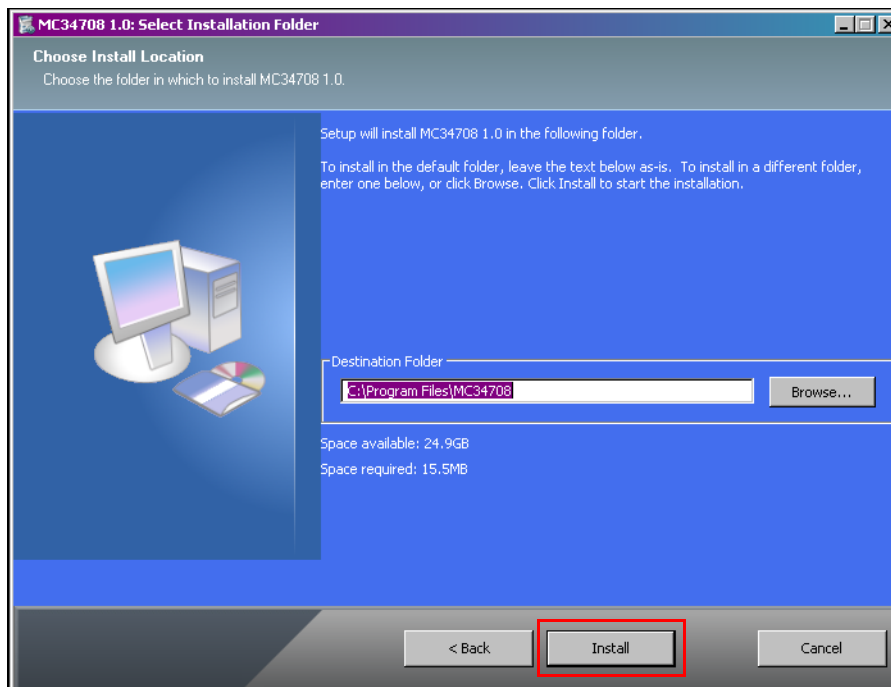
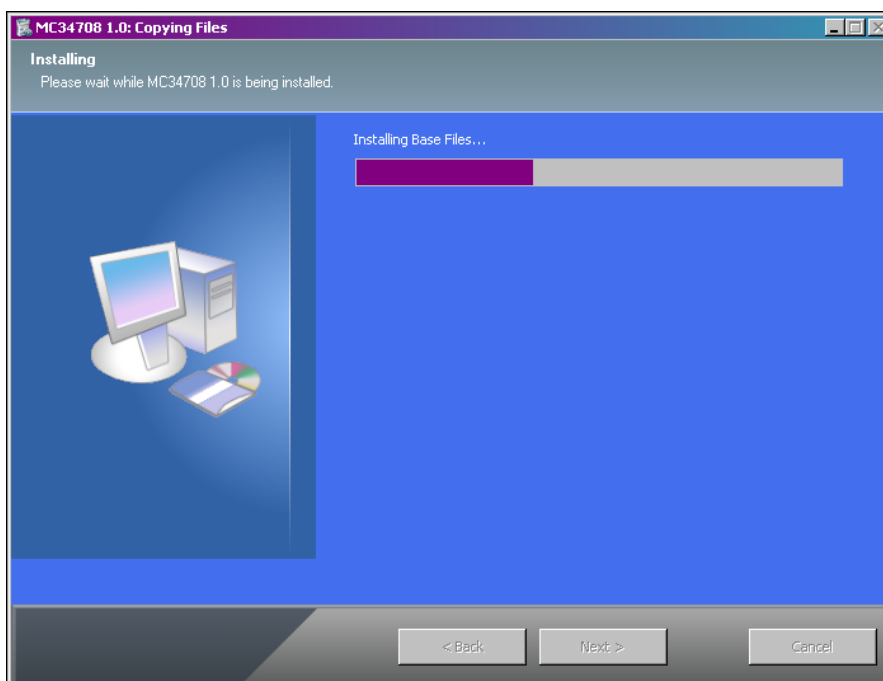

Figure 9. Select Installation Folder
Figure 10. Copying Files
5. Clicking the **Install** button, as shown in Figure 9, initiates the installation of the necessary drivers, as shown in Figure 10.